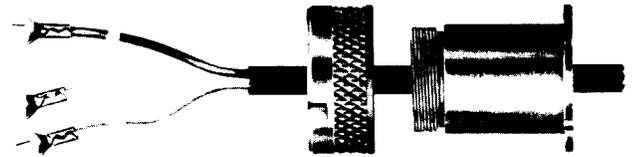

Fig. 2—Sleeve Bushing of F6AR or F6CR Handset
2.04 The bushings used with these handsets are shown in Fig. 2 and 3.